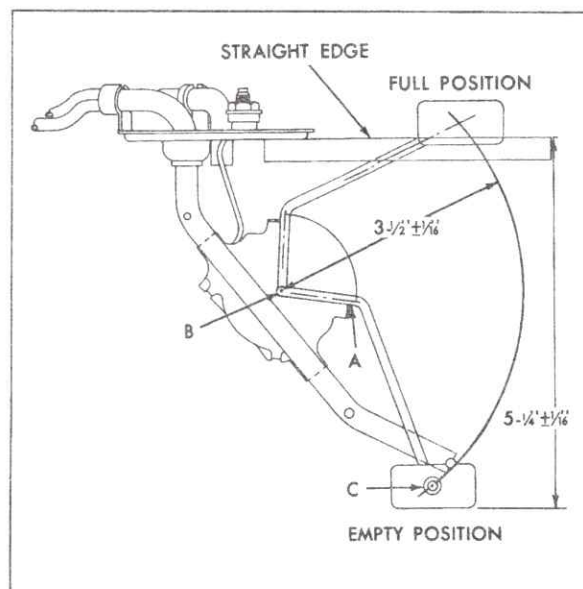
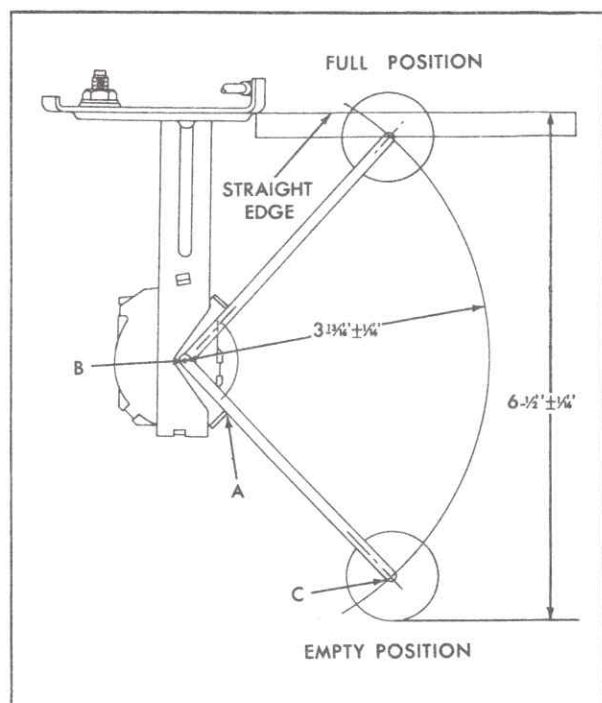

Fig. 12-15 Checking for Bent Float Arm
Fig. 12-16 Checking for Bent Float Arm - 693 Style
edge as illustrated on surface of cover plate, extending it outward. See Fig. 12-15 for all but 693 style or Fig. 12-16 for 693 style.
2. On all but 693 style, with float arm in "Empty" position against stop "A", distance from bottom of float (with float horizontal) to straight edge should be  $5\frac{1}{4}$  inches  $\pm \frac{1}{16}$  inch, Fig. 12-15. Bend float arm as needed. Check distance from point "B" to "C", which should be  $3\frac{1}{2}$  inches  $\pm \frac{1}{16}$  inch, Fig. 12-15. Bend float arm as needed and recheck distance from bottom of float to straight edge.
3. On 693 style, with float arm in "Empty" position against stop "A", distance from bottom of float to straight edge should be  $6\frac{1}{2}$  inches  $\pm \frac{1}{16}$  inch, Fig. 12-16. Bend float arm as needed. Check distance from point "B" to "C" which should be  $3\frac{13}{16}$  inches  $\pm \frac{1}{16}$  inch, Fig. 12-16. Bend float arm as needed and recheck distance from bottom of float to straight edge.